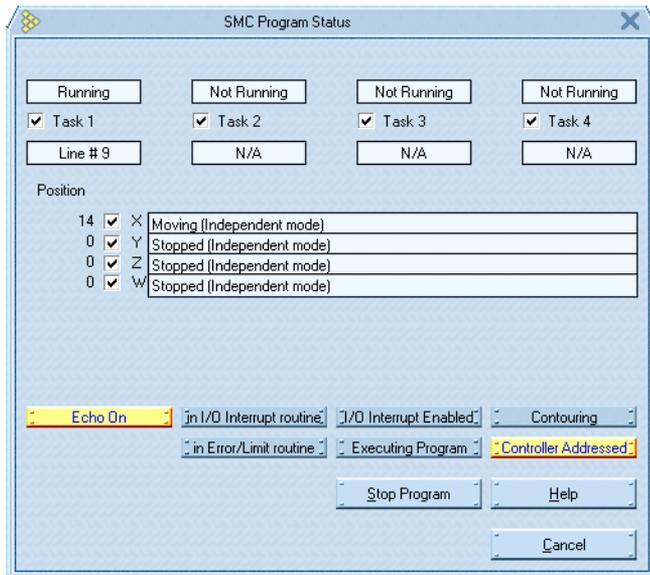

Figure 15: The Program Status Screen.
Once a program has been created and sent to the controller, it can be monitored with this function. The Program Status window, shown in Figure 15, is accessed through the pop-up menu on the Terminal window or through the Tools menu in the menu bar.
3. Click on the **Autotune** button. The dialog screens shown in Figures 15 and 15A will appear. If Autotuning was previously performed on this axis, previous values used will be loaded.